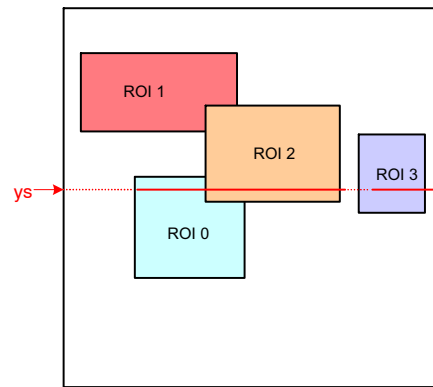

Figure 27. Scanning the Image Array with Four Windows
Figure 27 illustrates a practical example of a configuration with four windows. The current position of the read pointer ( $y_s$ ) is indicated by a red line crossing the image array. For this position of the read pointer, three windows need to be read out. The initial start position for the  $x$ -kernel pointer is the  $x$ -start configuration of ROI0. Kernels are scanned up to the ROI2  $x$ -end position. From there, the  $x$ -pointer jumps to the next window, which is ROI3 in this illustration. When reaching ROI3's  $x$ -end position, the read pointer is incremented to the next line and  $x_s$  is reinitialized to the starting position of ROI0.
- The read pointer is not necessarily incremented by one, but depending on the configuration, it can jump in  $y$ -direction. In Figure 27, this is the case when reaching the end of ROI0 where the read pointer jumps to the  $y$ -start position of ROI1.